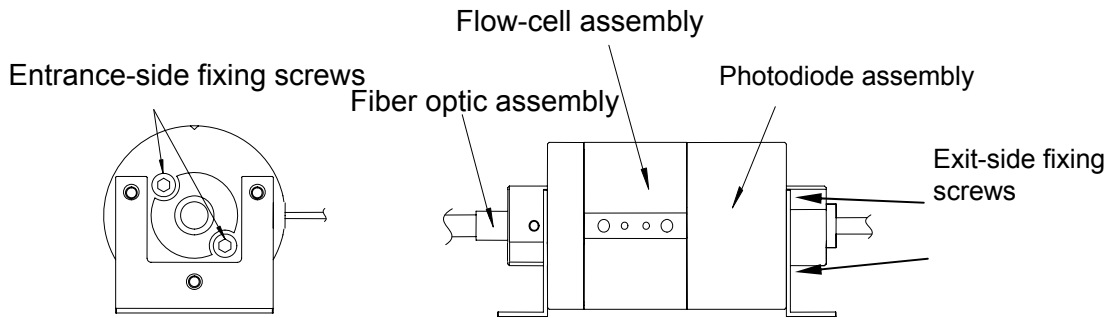

Fig.4-1: Disassembly of the flow-cell
- 3) Unscrew four entrance- and exit-side fixing screws referring Fig.4-1.